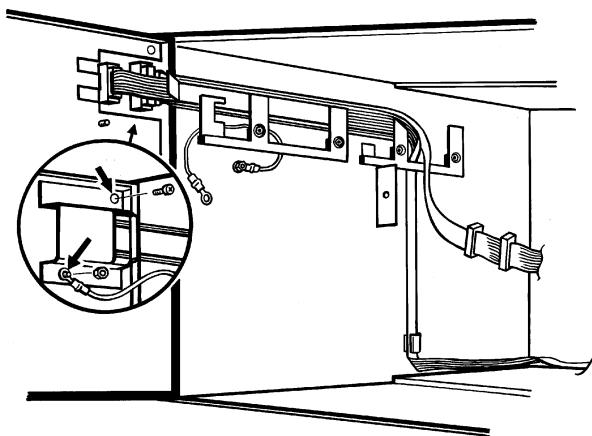

Figure 1a Earth lead and ribbon cable connectors
- 2 Remove the earth lead and the cover (figure 1a), retaining the fixings for later re-assembly.